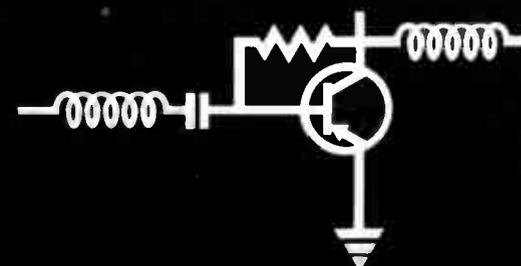

Fig. 20
4. In areas of high **RF** energy, the inductor approach is more effective than the shunt capacitor. An **RF** choke can be used in series with the input and output leads of the amplifier stage since the **RF** can enter a stage through either. This method and the values are shown in Figure 20.